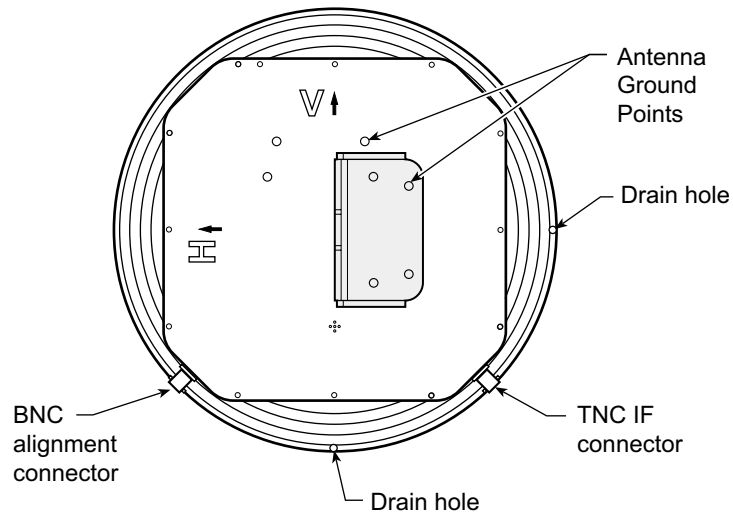

Figure 6-4. Mounting Vertically Polarized ODU
- Line up the bolts in the antenna with the four holes in the mounting bracket as shown in Figure 6-4.